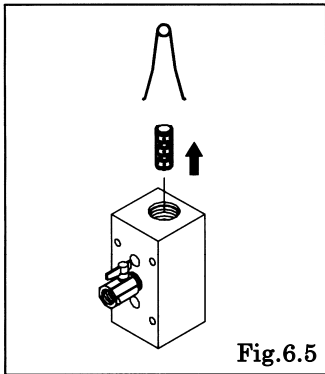

Fig.6.5
- Remove the sleeve from the valve body using the sleeve remover (special tool: Part No. 713148). [Fig.6.5]